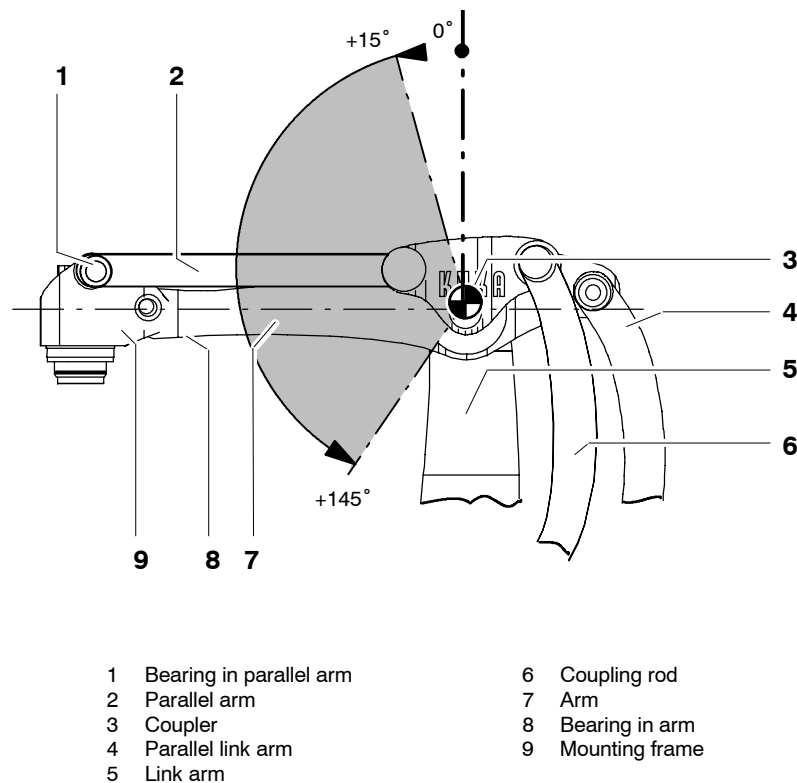

Fig. 3 Arm
The arm assembly (Fig. 3/7) embodies the driven element of axis 3 of the robot. The arm is flange-mounted to the side of the link arm (5) through a bearing and is driven by main axis motor unit A3 (6) via the parallel link arm (4). The drive motor is installed in the rotating column at the same height as rotational axis A2.
The effective software swivel range extends from $+15^\circ$ to $+145^\circ$, referred to the electrical zero position of axis 3, and depends on the position of axis 2 (as depicted in Fig. 3). The swivel range is limited by mechanical limit stops with a buffer function in addition to the software limit switches.